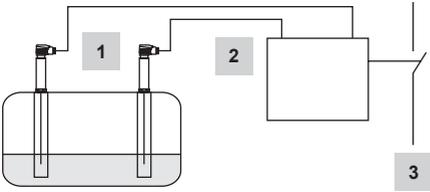

Fig. 6
- Fig. 6** **(Pressurised) hot-water plants and electrically heated steam boilers according to EN 12953-06. Steam boiler plants with high availability according to EN 12952-07 / EN 12953-06, 72h operation.**